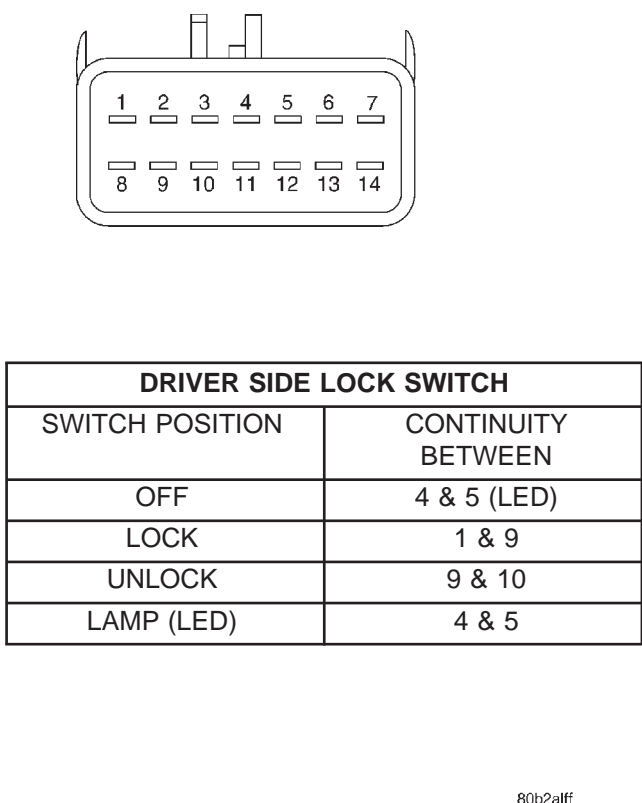
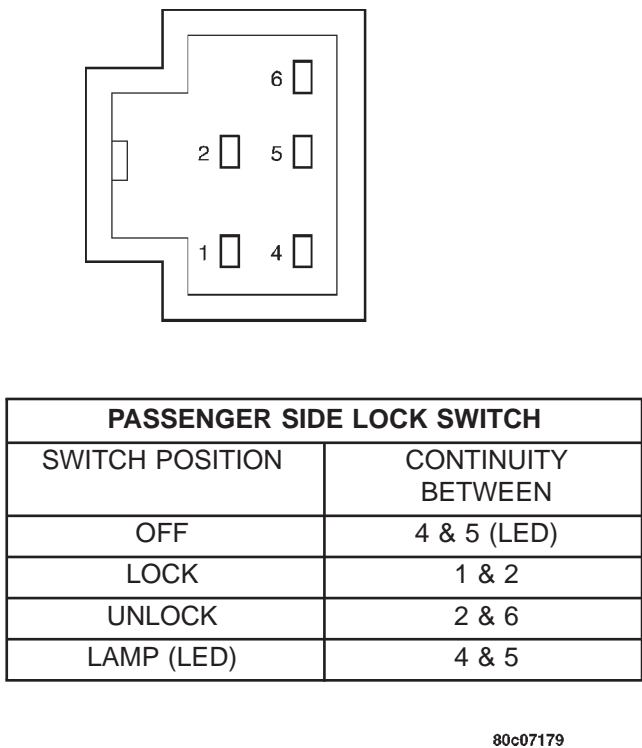

Fig. 3 Power Lock Switch Continuity - Driver Side - Quad Cab
Fig. 4 Power Lock Switch Continuity - Passenger Side - Quad Cab
(2) Check for battery voltage at the fuse in the JB. If OK, go to Step 3. If not OK, repair the open circuit to the Power Distribution Center (PDC) as required.
(3) Disconnect and isolate the battery negative cable. Unplug the wire harness connector from the power lock switch.
(4) Connect the battery negative cable. Check for battery voltage at the fused B(+) circuit cavity of the body half of the power lock switch wire harness connector. If OK, go to Step 5. If not OK, repair the open circuit to the JB as required.
(5) Test the power lock switch continuity. See the Power Lock Switch Continuity charts to determine if the continuity is correct in the Off, Lock and Unlock switch positions (Fig. 3) or (Fig. 4). If OK, repair the door lock switch output (lock and/or unlock) circuit(s) from the body half of the power lock switch wire harness connector to the Central Timer Module (CTM) as required. If not OK, replace the faulty switch.